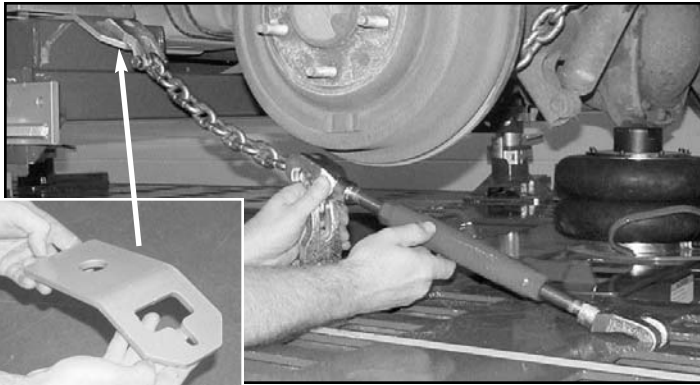

Figure 5
- Insert tie back bracket between rail vise and top riser bar. (See Figure 5 and its Inset.) Then attach a tie down chain to the tie back bracket and use a turnbuckle assist to support the anchoring assembly.